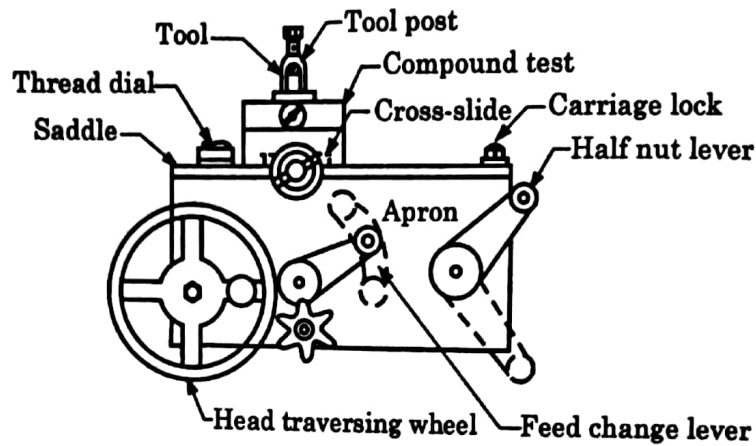

Fig. 3.6 : Carriage
**4. Carriage :** It is placed between the headstock and the tailstock. *It controls and supports the cutting tool.* It is movable on the bed ways and its purpose is to hold the cutting tool and to impart to it either longitudinal or cross feed. It has five major parts as shown in fig. 3.6.